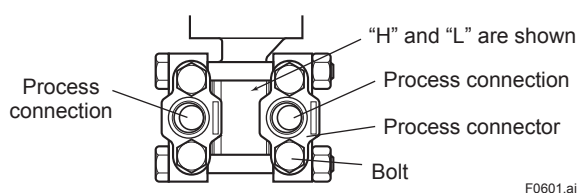

Figure 6.1 “H” and “L” Symbols on a Capsule Assembly
(1) Check the High and Low Pressure Connections on the Transmitter (Figure 6.1)